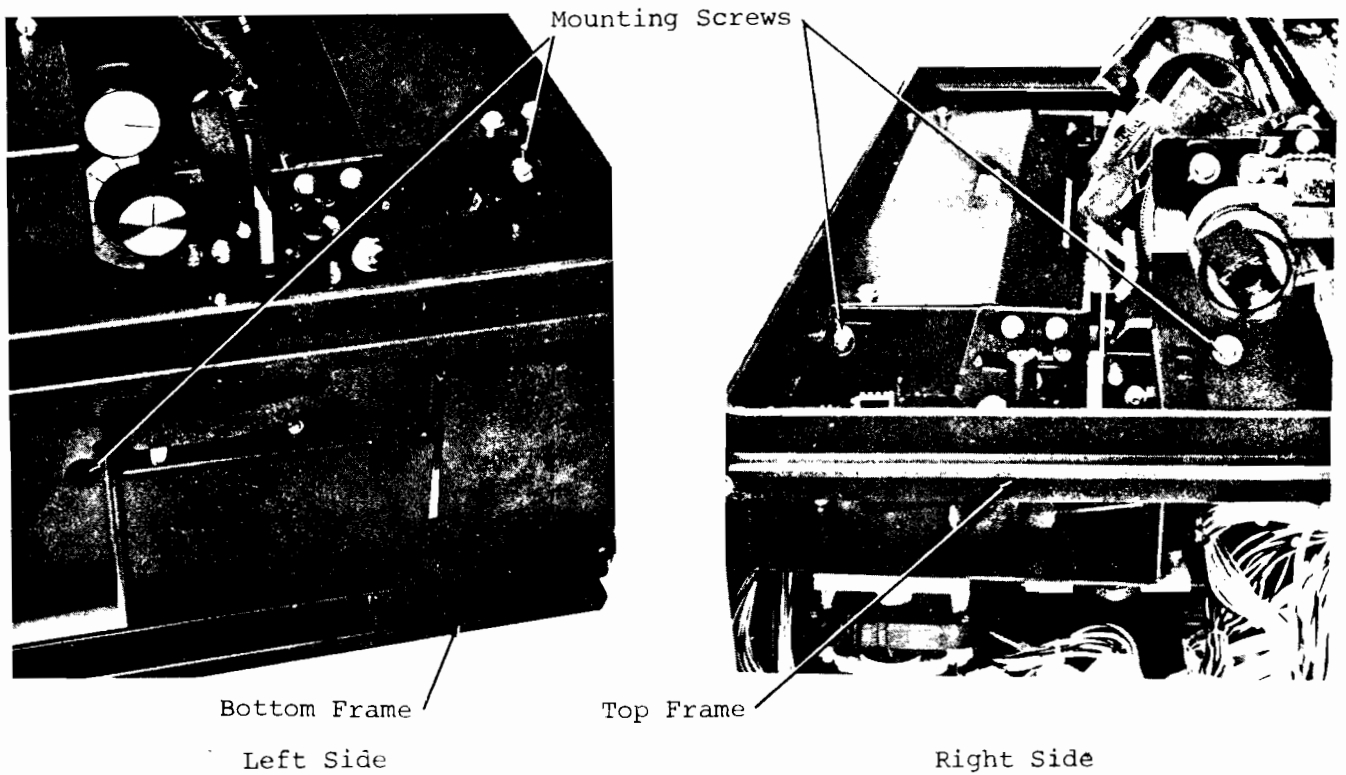

Figure 5-5. Ribbon Drive Assembly Mounting
- d. Mark the locations of the ribbon drive assemblies, then remove the two mounting screws (figure 5-5) for both the right and left ribbon assemblies.
- c. Loosen, but do not remove, the mounting screws for the right and left ribbon assemblies (figure 5-5).
- c. Mark the position of the right-hand ribbon drive assembly and remove the two mounting screws (figure 5-5). Work the assembly between the upper and lower frame on the right hand side and remove from the unit.